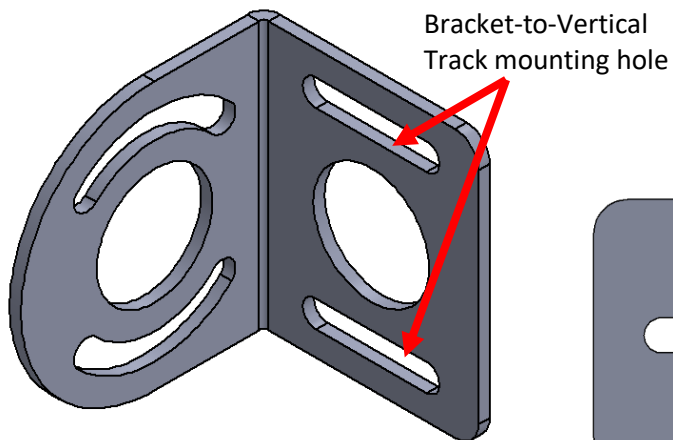

Figure 7: Retroreflective Photo Eye - Emitter Mount Bracket
- Using the provided self-tapping fasteners, secure the provided brackets to the face of the aluminum verticals as shown above in Figure 7.